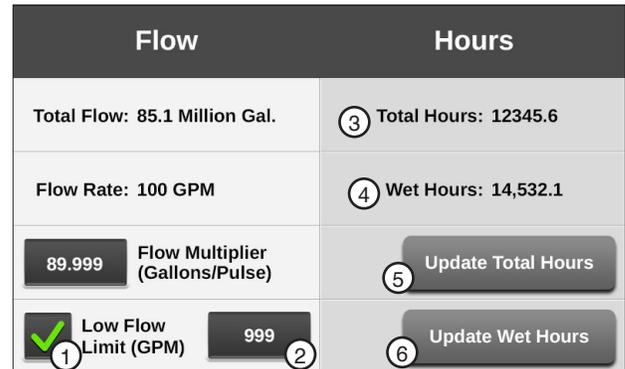

Figure 63-1 1. Low Flow Limit Checkbox 2. Low Flow Limit 3. Total Hours Status 4. Wet Hours 5. Update Total Hour 6. Update Wet Hours
A Low Flow system fault can only occur if the system is above the low pressure setting, the Low Flow Limit feature is on and a flow meter is installed. Refer to Figure 63-1.
1. Push **Menu**, **System**, **Data** and **Flow/Hours** to display the Flow/Hours screen. Refer to Figure 63-1.